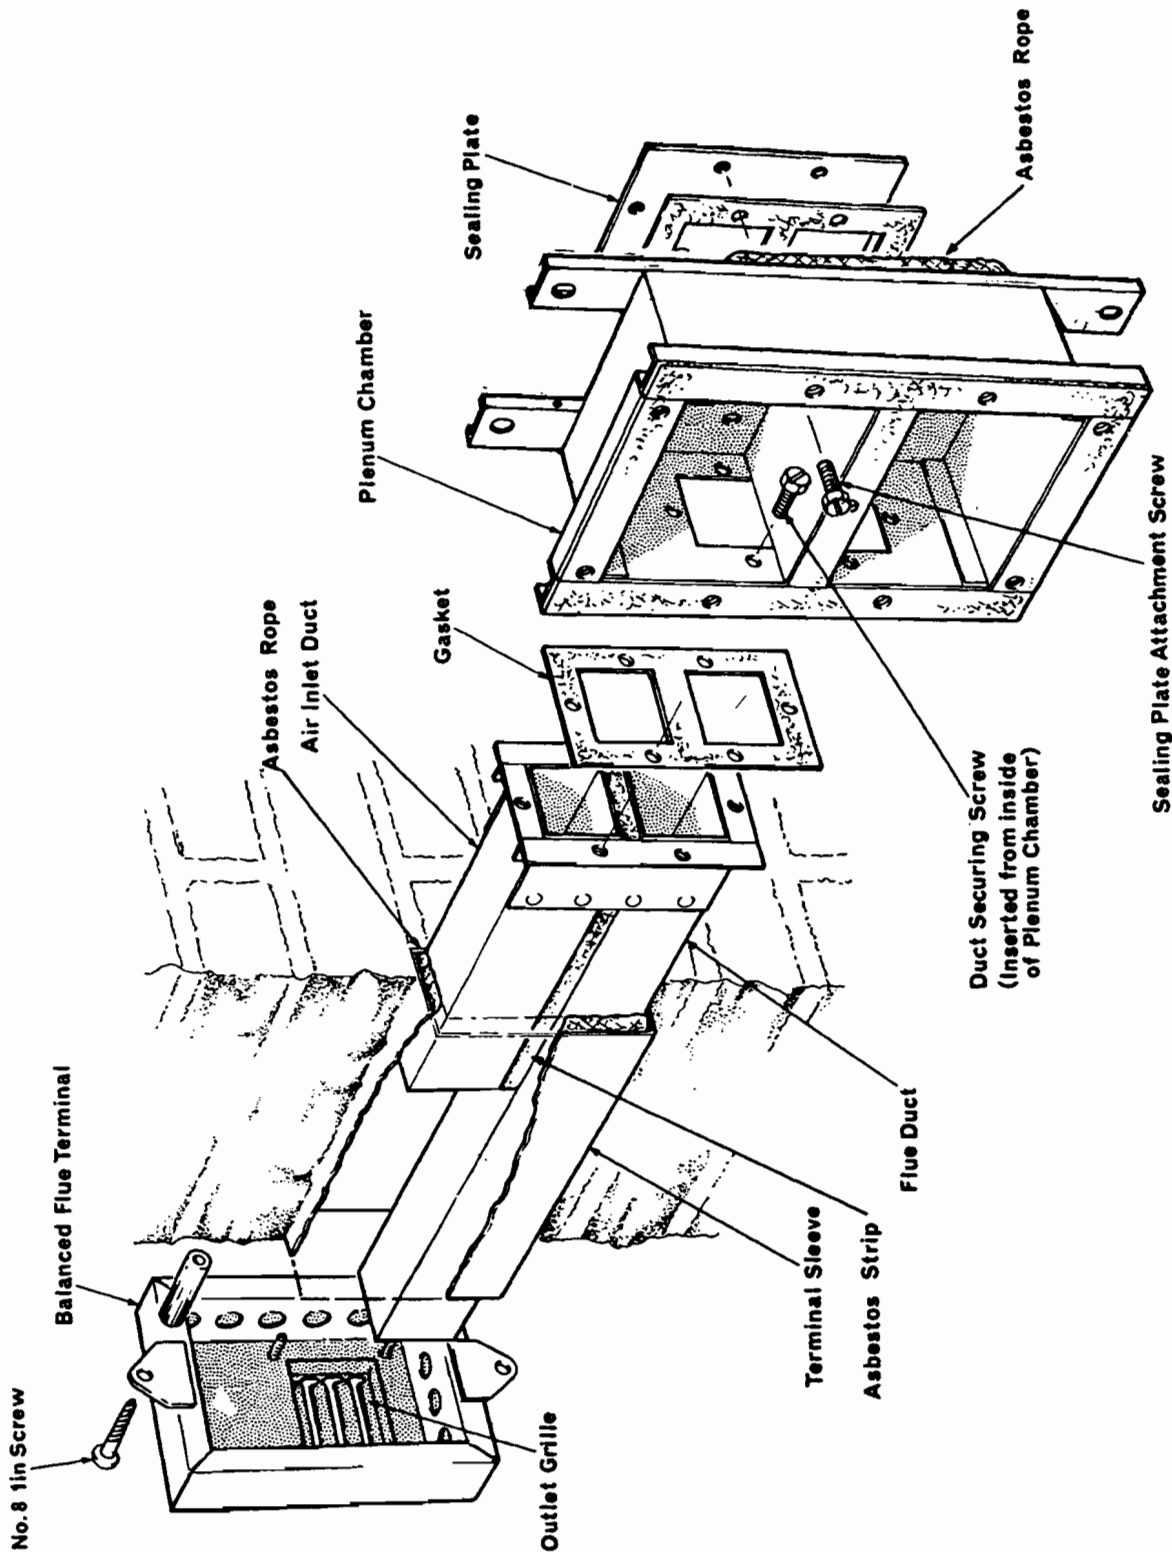

Fig. 5 ARRANGEMENT OF NETAHEAT 10/16 DUCTS
A. Potterton Netaheat 10 - 16 only — See Fig. 5.
- (1) Fit and cut the wall liner to size, terminating it flush with the inside and outside wall faces of the building. Ensure the ends are square.
- (2) The plenum chamber has two connections for the fresh air and flue ducts, one to one side and the other to the rear. One of these connections is blanked off with a sealing plate and gasket and depending on the direction the ducts are to be connected to the boiler, these should be re-positioned by the installer if necessary. The single side